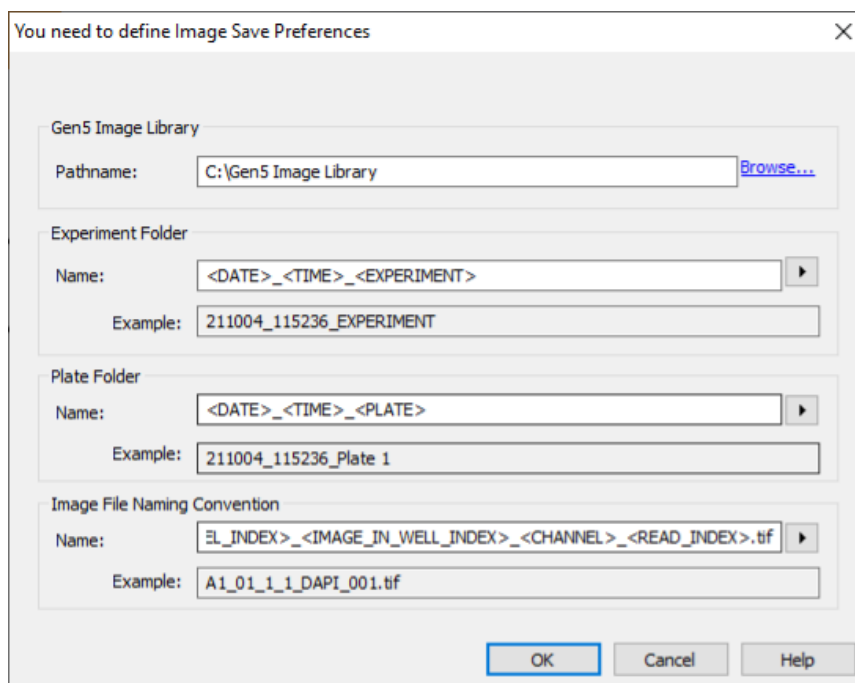

Figure 33. Define an image save location (**Pathname**), **Experiment Folder**, **Plate Folder**, and **Image File Naming Convention** in **Image Save Preferences**.
- 7 You will then be prompted to select an **Image Save** location and other image save preferences (**Figure 33**). This will be the folder where all image data collected with the **Seahorse** or **Cytation** will be stored.